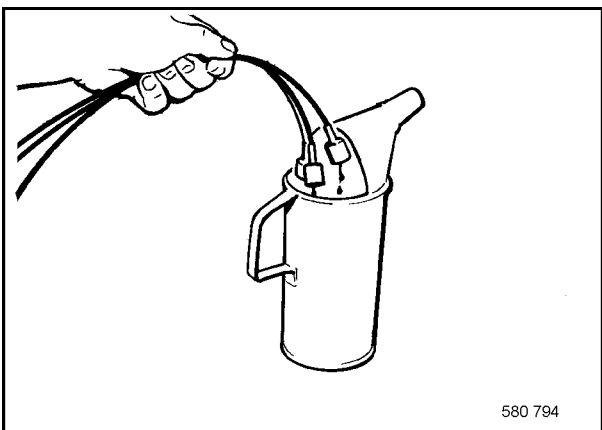

Fig. 3
5. Hold the open ends of the pressure test hoses (Fig. 3) into a container.